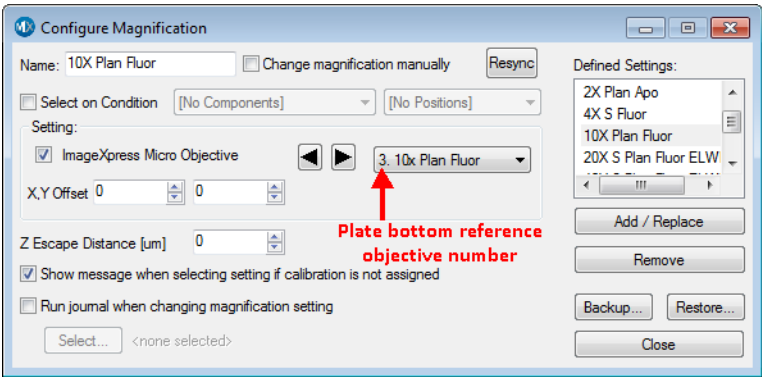

Figure 8-8: Configure Magnification dialog with objective # highlighted
4. In the **Configure Magnification** dialog, select the objective you want to use as the reference from the field, and write down the plate bottom reference objective number (highlighted in Figure 8-8) in Table 8-2.